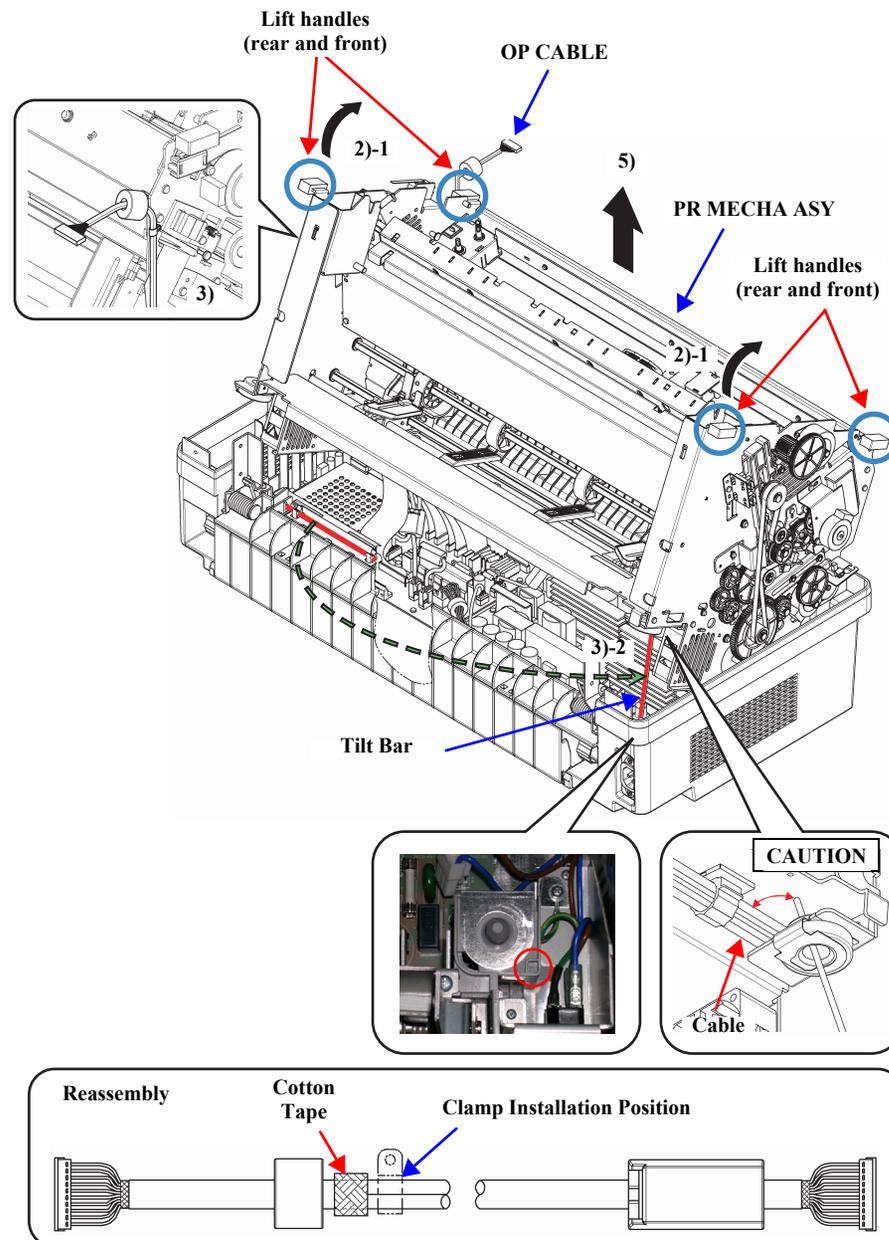

Figure 4-23. PR MECHA ASY Removal (1)
- Lift one side of the PR MECHA ASY in the direction of the arrows shown in Figure 4-23 holding the two rear lift handles, and keep the PR MECHA ASY tilted up using the tilt bar.
When attaching the OP CABLE, install the clamp to the cable at the position shown in Figure 4-23 before fastening the clamp and OP CABLE to the SIDE FRAME, RIGHT.